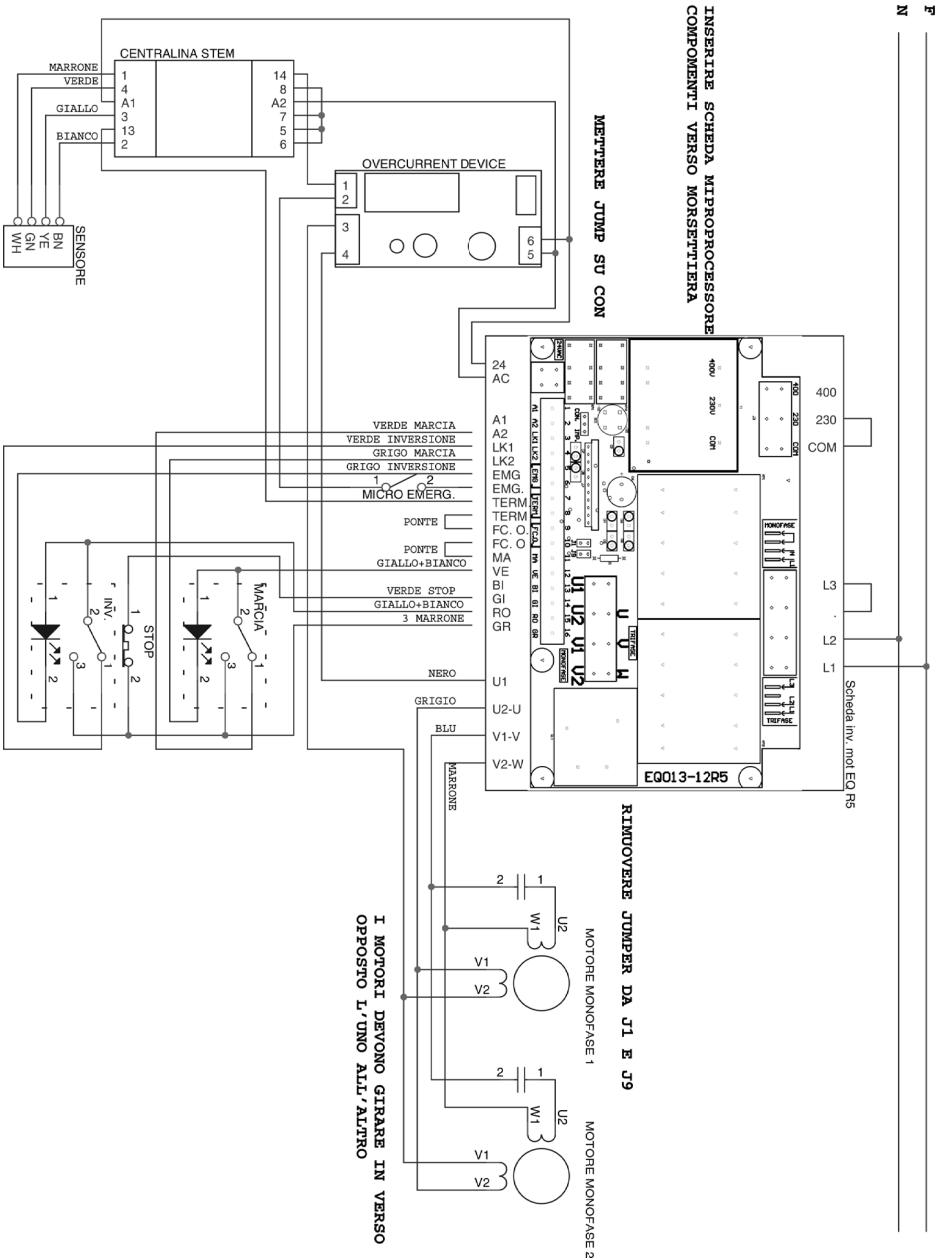

Fig. 2.4.2
2.4.2 - Wiring diagram single-phase 230V (Fig. 2.4.2)